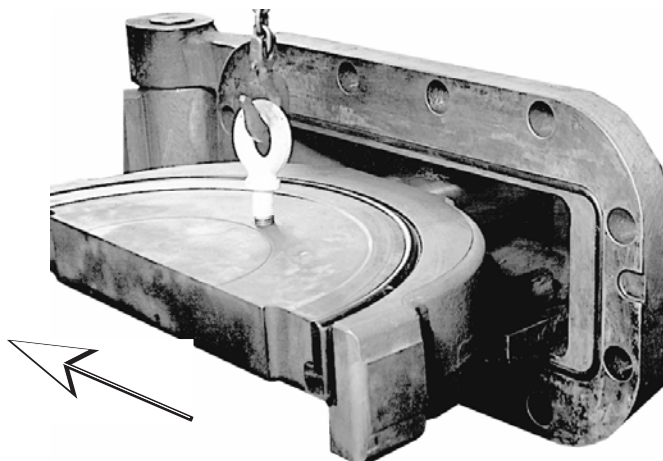

Figure 4-11. Install Eyebolt and Slide Ram Horizontally
10. Slowly lift the ram into position to slide the assembly horizontally onto the ram shaft foot. Make sure the ram assembly is centered within the front of the door cavity as shown in Figure 4-11.